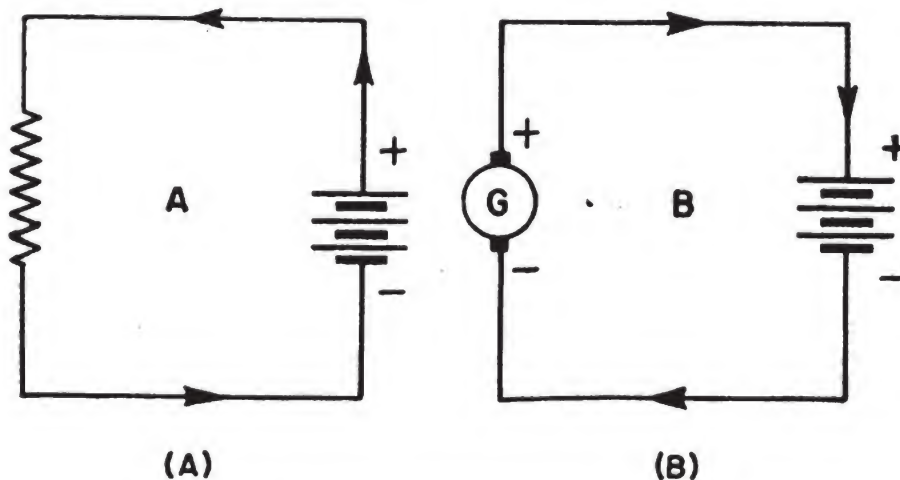

Figure 80.—Battery current—charge and discharge.
In (A) of figure 80, note that when a battery discharges, current flows from the positive ter-
minial and into the negative terminal. To charge, you must send a direct current through the battery in the opposite direction. You charge by connecting the battery to a CHARGER that provides voltage higher than that of the battery. As you see in (B) of figure 80, you connect the positive terminal of the generator to the positive terminal of the battery, and complete the circuit by connecting the negative terminals. If the genera-